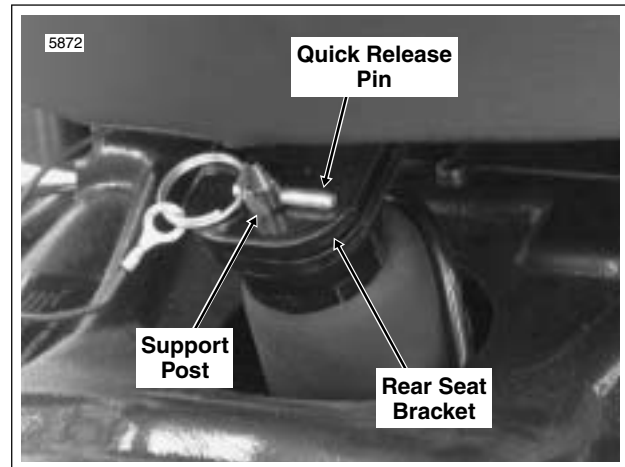

Figure 2-2. Seat Latch
1. Standing on left side of vehicle, press down on rear of seat and pull quick release pin from hole in support post. See Figure 2-2. Raise seat toward fuel tank console.